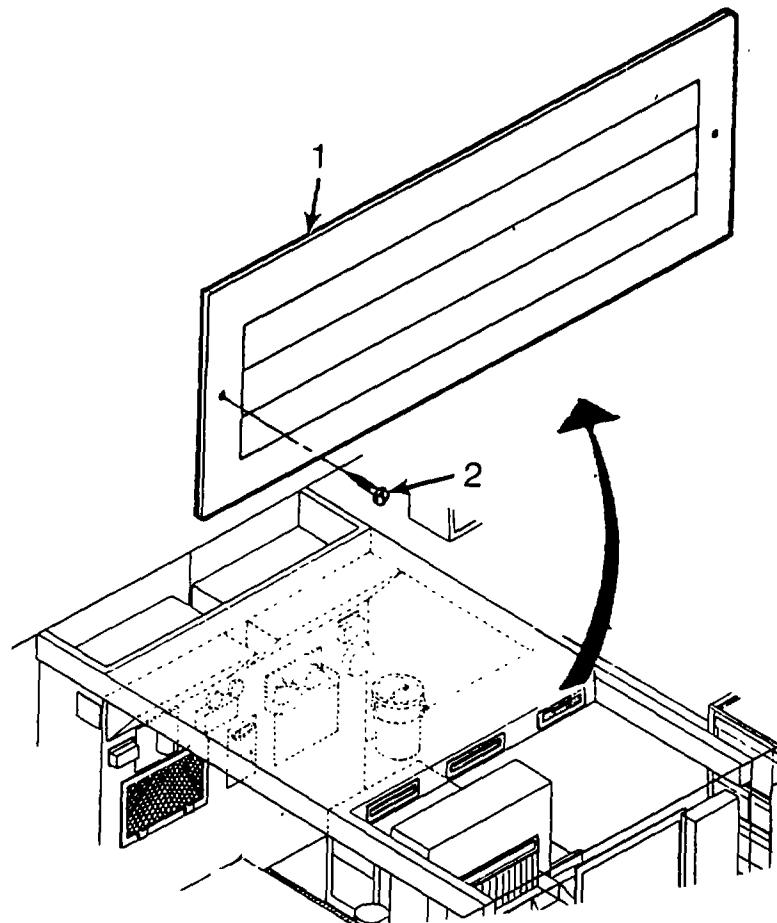

Figure 4-8. End Registers
- b. Repair by replacing end register (1). (See figure 4-8.)
- (1) Remove mounting screws (2) and remove end register (1) from AC ducting assembly (3).
- (2) Align replacement end register (1) over holes in AC ducting assembly (3) and secure in place with mounting screws (2).